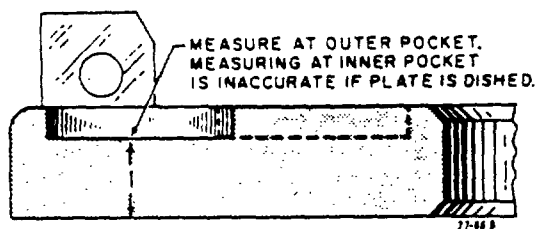

Figure 5-4. Pressure Plate Thickness Dimension
5. If pressure plate is scored, heat checked, or warped more than 0.020 inch, it must be replaced or refaced. Remove only enough metal to obtain a smooth flat surface. Finish with a light cut and polish with emery cloth. When thickness (1) becomes less than the worn limit given in specifications, the plate must be replaced. Measure at outer spring pocket, see Figure 5-4. Measuring at inner pocket is not accurate, if pressure plate is dished. If cleft lugs are worn, cracked or distorted, replace the plate. Replace eyebolts if they are distorted, have worn threads or keyways.